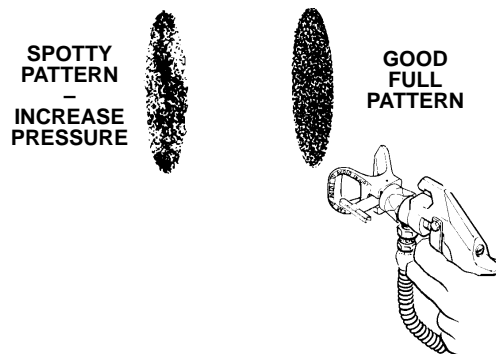

Fig 4
3. Adjusting the spray pattern (Refer to Fig 4.)